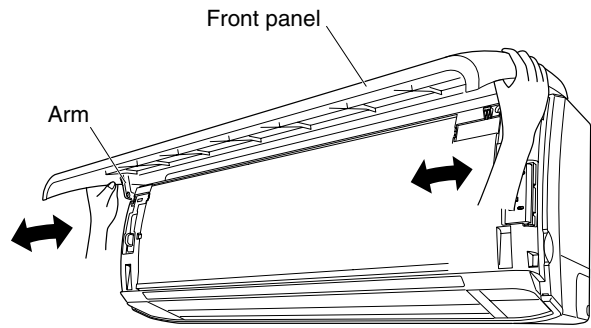

Fig. 9
- (1) Open the front panel until it is nearly horizontal, grasp the sections near the front panel arms on both sides, and then pull forward to remove the front panel. (Fig. 9)